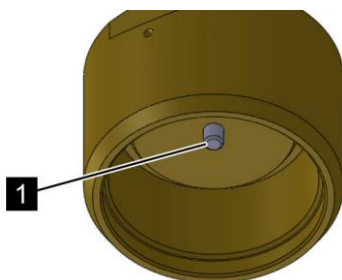

Fig. 158: Release pin
5. ➤ Check whether the release devices of the associated extinguishing agent container/s have been activated, i.e. whether the release pin (Fig. 158/1) protrudes 8.2 ± 0.5 mm (0.323 ± 0.02 inches).